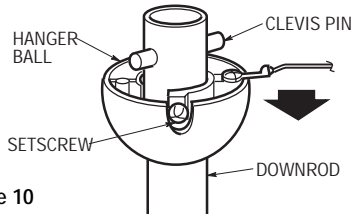

Figure 10
16. Remove the hanger ball by loosening the setscrew in the hanger ball until the ball falls freely down the downrod (Figure 10). Remove the pin from the downrod, then remove the hanger ball. Retain the pin and hanger ball for reinstallation in Step 22.